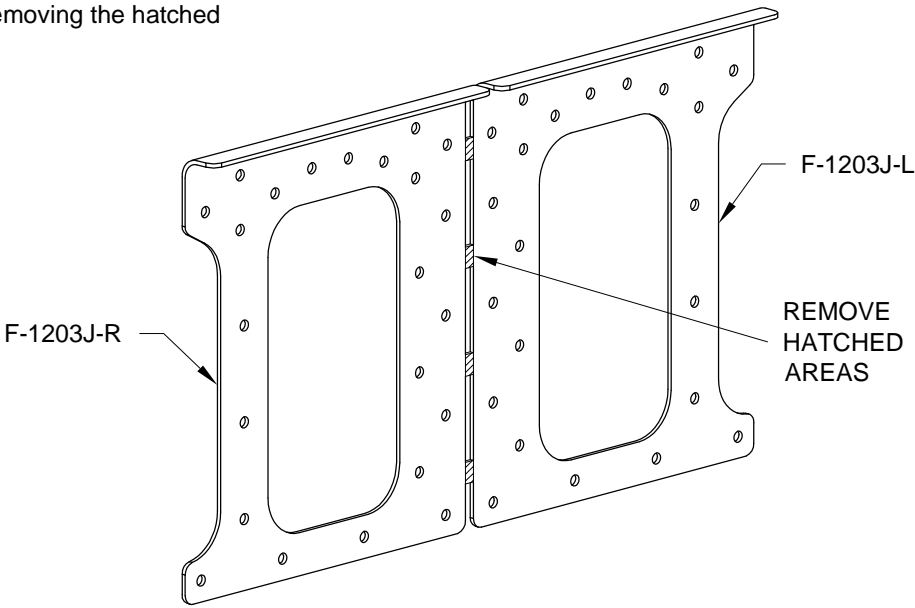

FIGURE 1: SEPARATING F-1203J
Step 1: Separate F-1203J by removing the hatched areas shown in Figure 1.